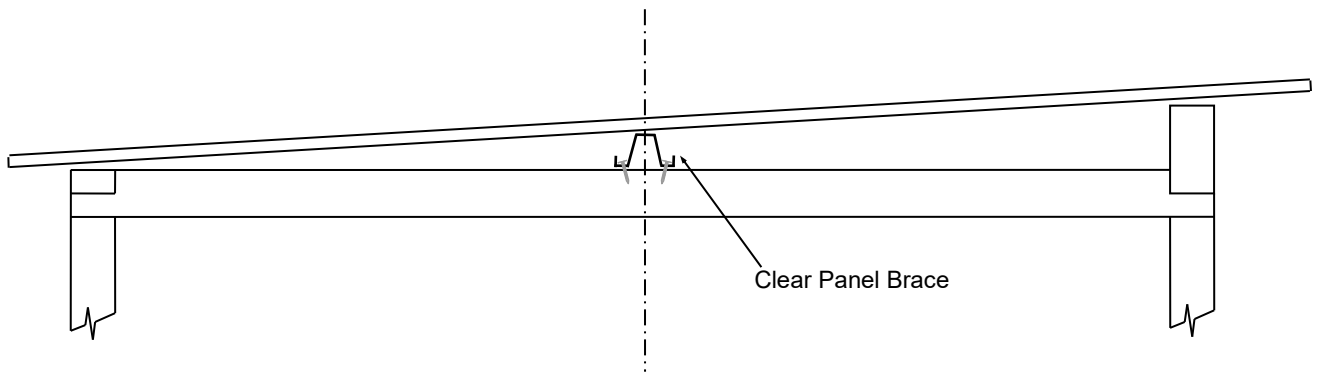

fig. 2
Step 1a: Pre-drill two holes at both ends of Clear Panel Brace. Position Clear Panel Brace centrally on Top End Plates and nail in place using two 30mm clouts each end (**fig. 2**).